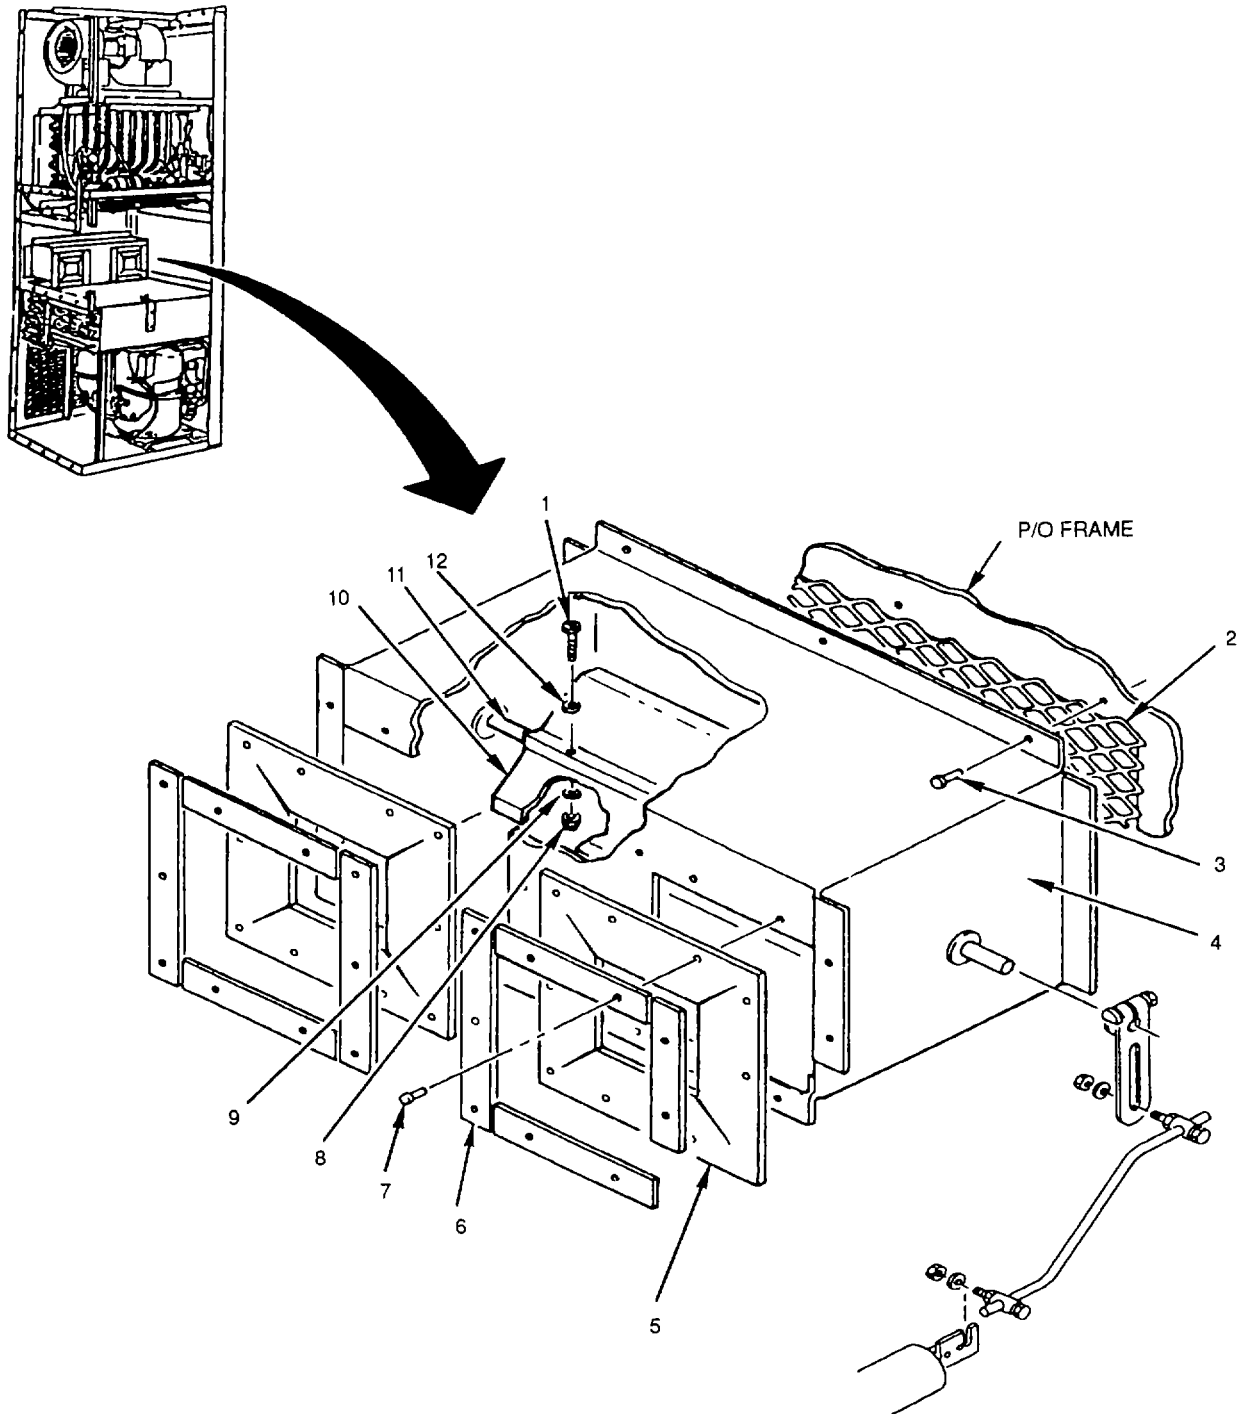

Figure 6-1. Condenser Duct
- (1) Disconnect air conditioner input power at source,
- (2) Remove condenser fan section panel (paragraph 4.23);
- (3) Remove condenser motor and housing assembly (paragraph 4.49);
- (4) Remove damper actuator (paragraph 5.33); and
- (5) Remove damper operator (paragraph 5.34)
- a. Remove six rivets (3) securing duct (4) to back of frame (see fig 6-1).
- b. Lift duct over thermostatic expansion valve and remove duct (4).
- a. Check duct (4) for damage.
- b. Check for proper operation of damper (10) and pivot shaft (11)
- c. Check that gasket (5) is not damaged or missing rivets (7).